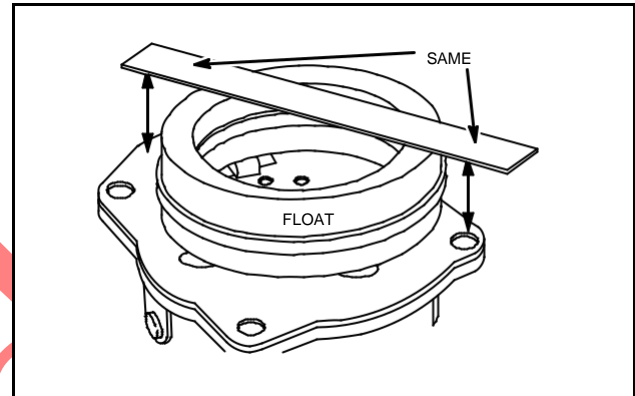

Fig. 37 – Check Float Height
6. Invert upper body and check float height, Fig. 37.